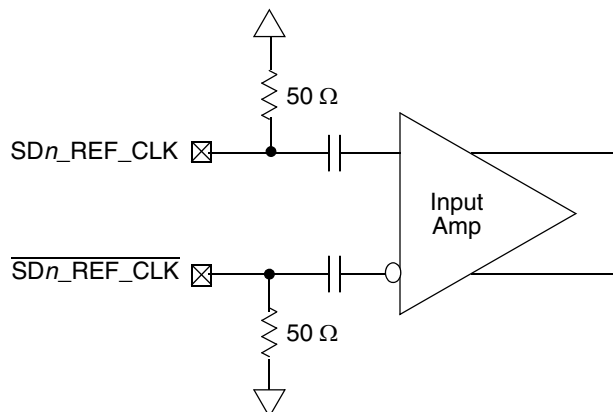

Figure 49. Receiver of SerDes Reference Clocks
Figure 49 shows a receiver reference diagram of the SerDes reference clocks.
- The SDn_REF_CLK and $\overline{\text{SDn_REF_CLK}}$ are internally AC-coupled differential inputs as shown in Figure 49. Each differential clock input (SDn_REF_CLK or $\overline{\text{SDn_REF_CLK}}$) has a 50 Ω termination to SGND_SRDSn (xcorevss) followed by on-chip AC-coupling.